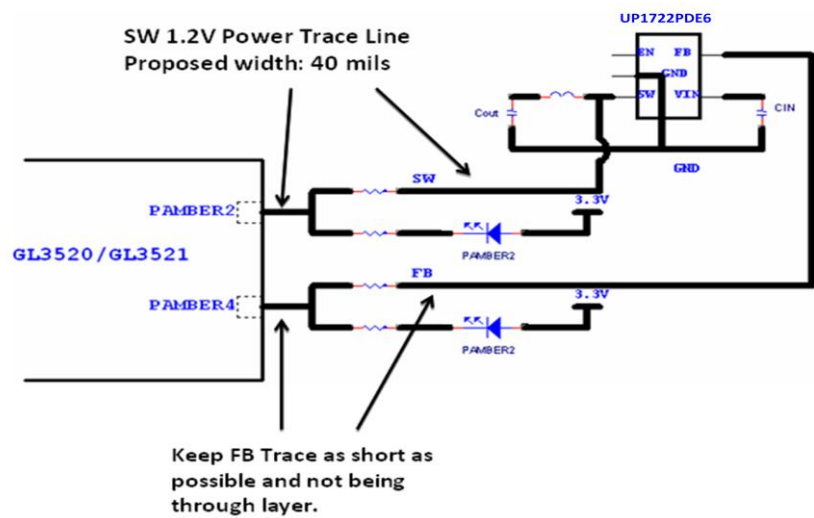

Figure 2.18
1. The layout trace diagram of 1.2V DC/DC converter is described as **Fig. 2.18**. Please route the UP1722PDE6 power trace first, and then place GPIO (PAMBER#). The width of SW 1.2V power trace line is recommended to be 40 mils. The trace of FB is recommended to be as short as possible, and not to be routed through the layer of EMI protection. There is large current passing through the pin 2 of UP1722PDE6. This pin has to be connected with the ground of  $C_{IN}$  and  $C_{OUT}$ , and the trace has to be wide. Increase the amount of via holes at the ground of pin 2. Increase via holes at the ground connected with  $C_{IN}$ ,  $C_{OUT}$ , and the pin 2 of UP1722PDE6, and widen the trace. Please also refer to Section 3.4 Power Source for more information.